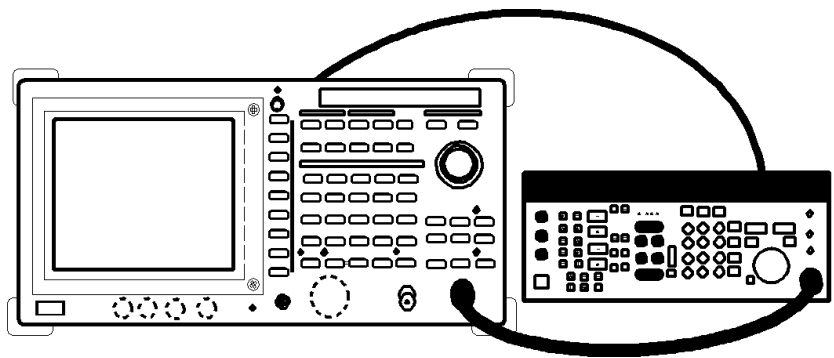

Figure 1-9 Setup for Measuring a Noise Sidebands
1. Connect the signal generator as shown in Figure 1-9.